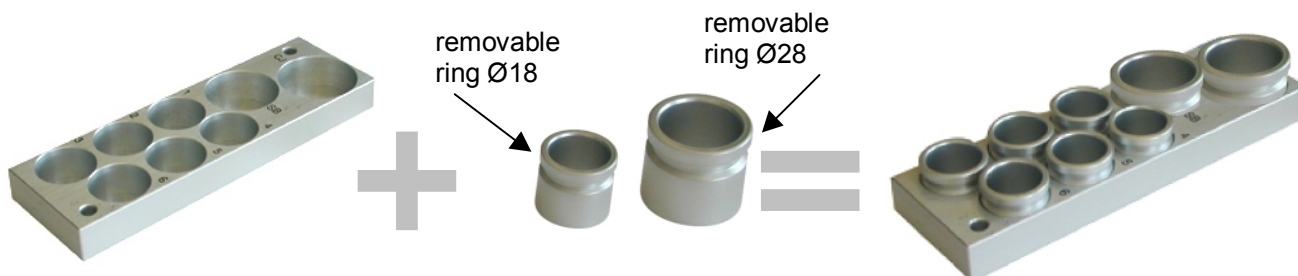

Fig 1- Universal Reagent rack
- Universal Reagent rack (Fig. 1)